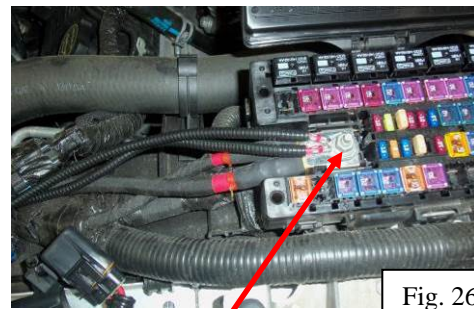

Fig. 26
20. Open the fuse box and remove the 10mm nut holding the main power wires to the fuse box. Attach both power leads from the wire harness to the main wire lead of the fuse and tighten the 10mm nut (Fig. 26).